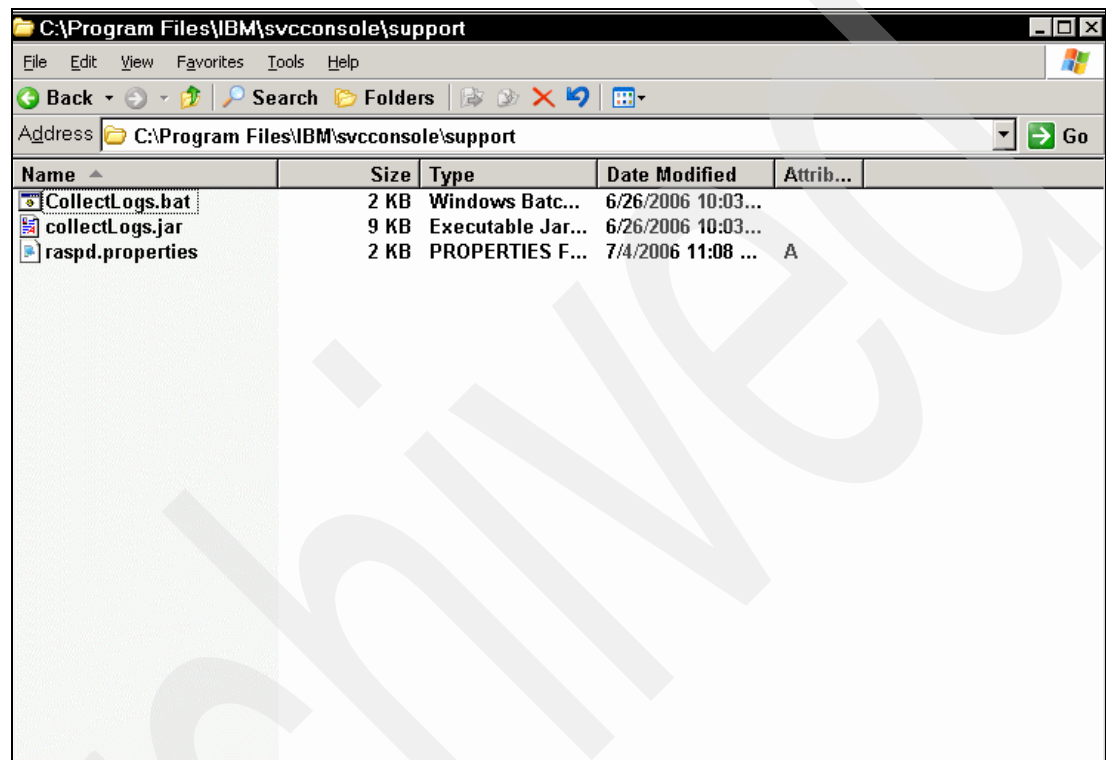

Figure 6-26 SVC CollectLogs.bat
2. Run **CollectLogs.bat** (see Figure 6-26).